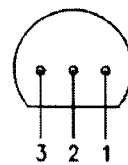

fig. B10.6
- The pin out of the PUT 2N 6027 used in these exercises is shown in figure B10.6